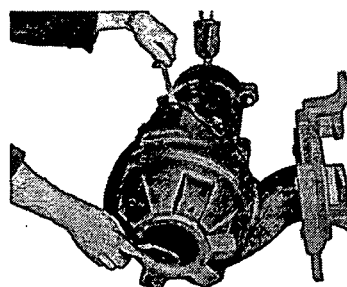

Fig. 15
4. Turn the impeller by hand and check at several points, see fig. 15.